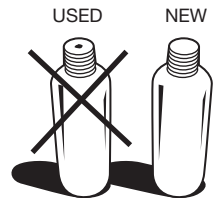

Figure 3
**Make sure that the CO2 cylinder has not been used before, has no leaks and is tightly screwed in.** Hand tighten only. If the CO2 cartridge has been discharged, the cap on the threaded end will be pierced as shown in Figure 3. If a small scale (like a postal scale) is available, it is recommended that the cartridge be checked by weighing it. The minimum gross weight of the cartridge is printed on the cartridge which includes the gas charge.